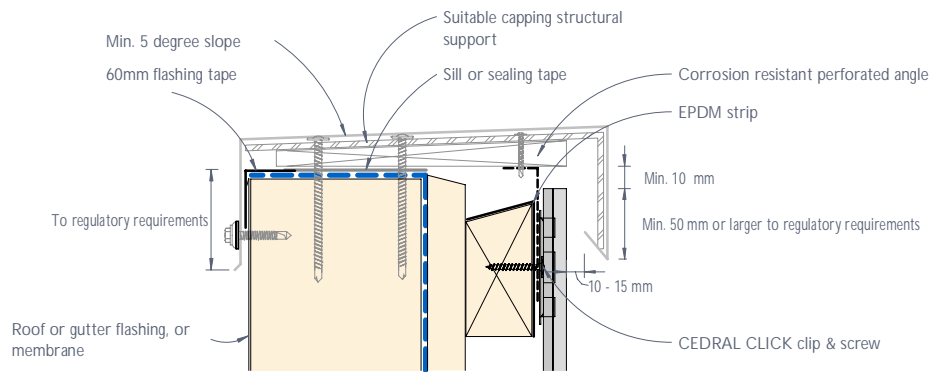

Figure 32: CEDRAL CLICK typical capping detail
- 3) Capping shall be designed and engineered accordingly to provide adequate allowance for ventilation as shown in Figures 32 & 33.